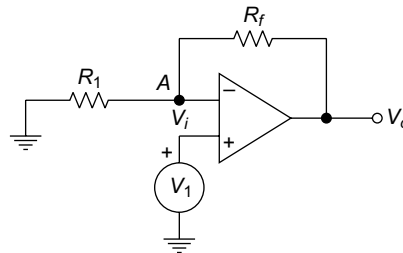

Fig. 4.27 Circuit of Ex. 4.18
4.18 Figure 4.27 shows an operational amplifier circuit. The operational amplifier has slew rate about 0.5 V/ μ s, gain is 10 and output saturation voltage levels are $\pm 10 \text{ V}$, maximum frequency is 100 kHz.